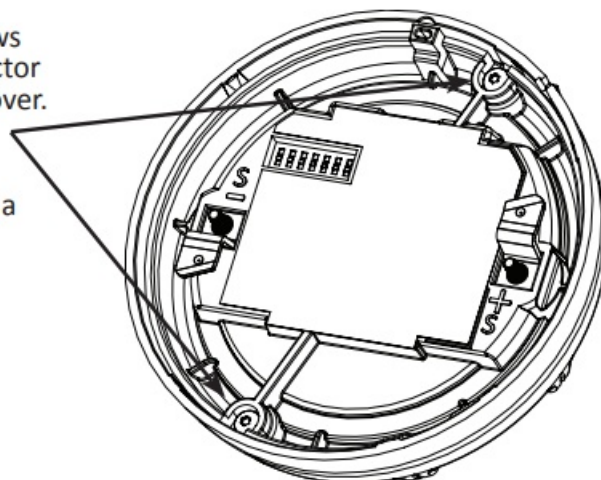

FIGURE 3
3. Remove cover from detector by removing the two screws (T10) on back of detector (FIGURE 3).